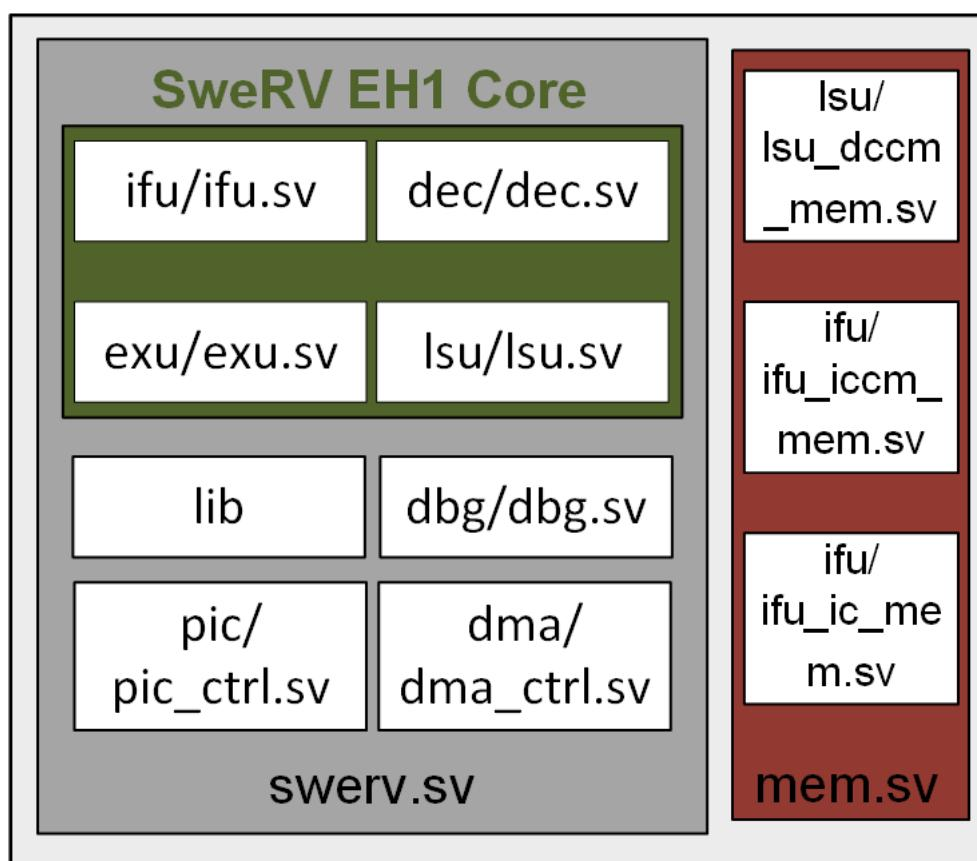

Figure 27. SweRV EH1 Core Complex
Figure 27 shows the file structure of the **SweRV EH1 Core Complex** (Figure 20). The core is organized into three main blocks: a SweRV wrapper (highlighted in grey) that includes the SweRV EH1 Core (highlighted in green) and some other elements (such as the Interrupt Controller or the Debug Unit), and the Data/Instruction memories and Instruction Cache (highlighted in red).
The top file for the SweRV EH1 Core Complex is in the file: **swerv_wrapper.sv**; the top module is called **swerv_wrapper**, and it instantiates two modules that correspond to the two blocks highlighted in grey and red in Figure 27:
The SweRV EH1 Core (highlighted in green in Figure 27) consists of the following four units:
- **swerv_wrapper_dmi** (available inside *SweRVEh1CoreComplex/swerv_wrapper_dmi.v*): instantiation (line 407 of *swervolf_core.v*) of Western Digital's SweRV EH1 Core Complex, described in the previous section (Figure 27).